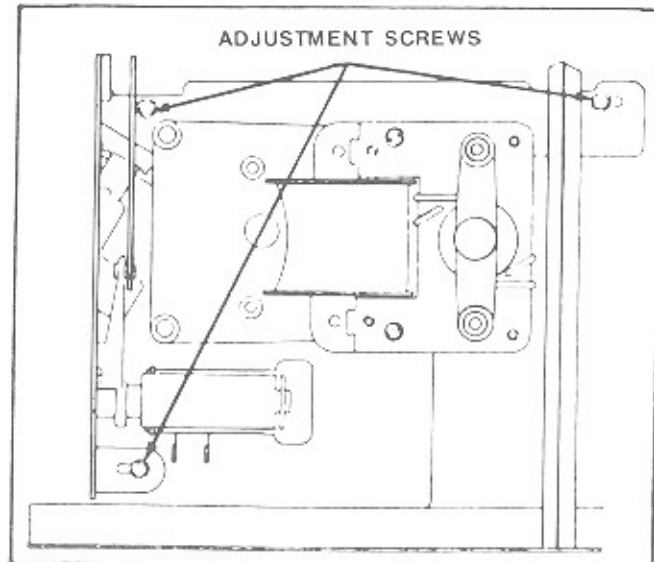

Figure 6-15. Magazine Adjustment
5. With sprag wheel locked, move the magazine until the disc is centered between belt guides (The adjustment screws will be approximately centered in the slots, see figure 6-15).